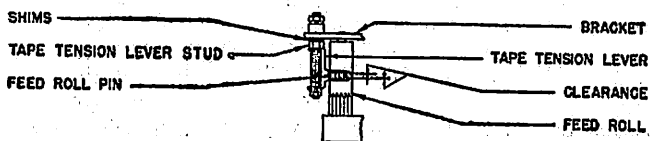

Fig. 36.
4.56 Tape tension lever shall be located centrally over the feed roll pins and not touch them when the play in the feed roll and the tension lever is taken up in opposite directions. See Fig. 36.